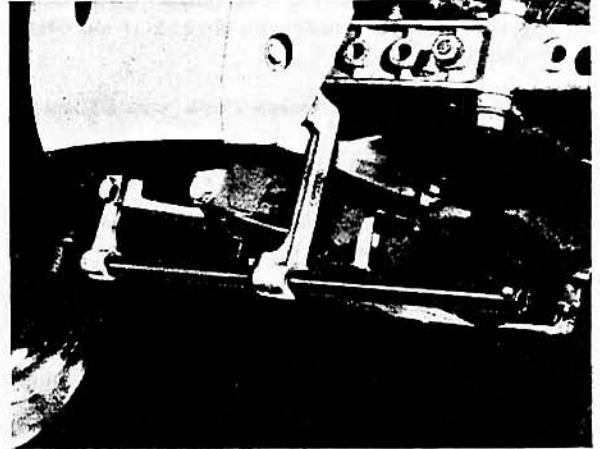

FIG. 6
8. Fit Service Tool MF.165 between the front axle beam and the front axle support as shown in Fig. 6.
6. Fit Service Tool MF.165 between front axle beam and front axle support (see J-3, detail 8 and Fig. 6).